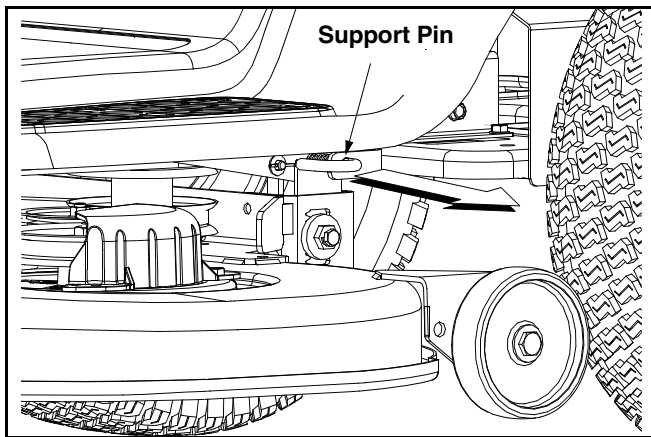

Figure 24
IMPORTANT: If the cutting edge of the blade has already been sharpened to within 5/8" of the wind wing radius, or if any metal separation is present, replace the blades with new ones. See Figure 24.
- Pull the deck support pin outward to release the deck from the deck lift arm. See Figure 24.